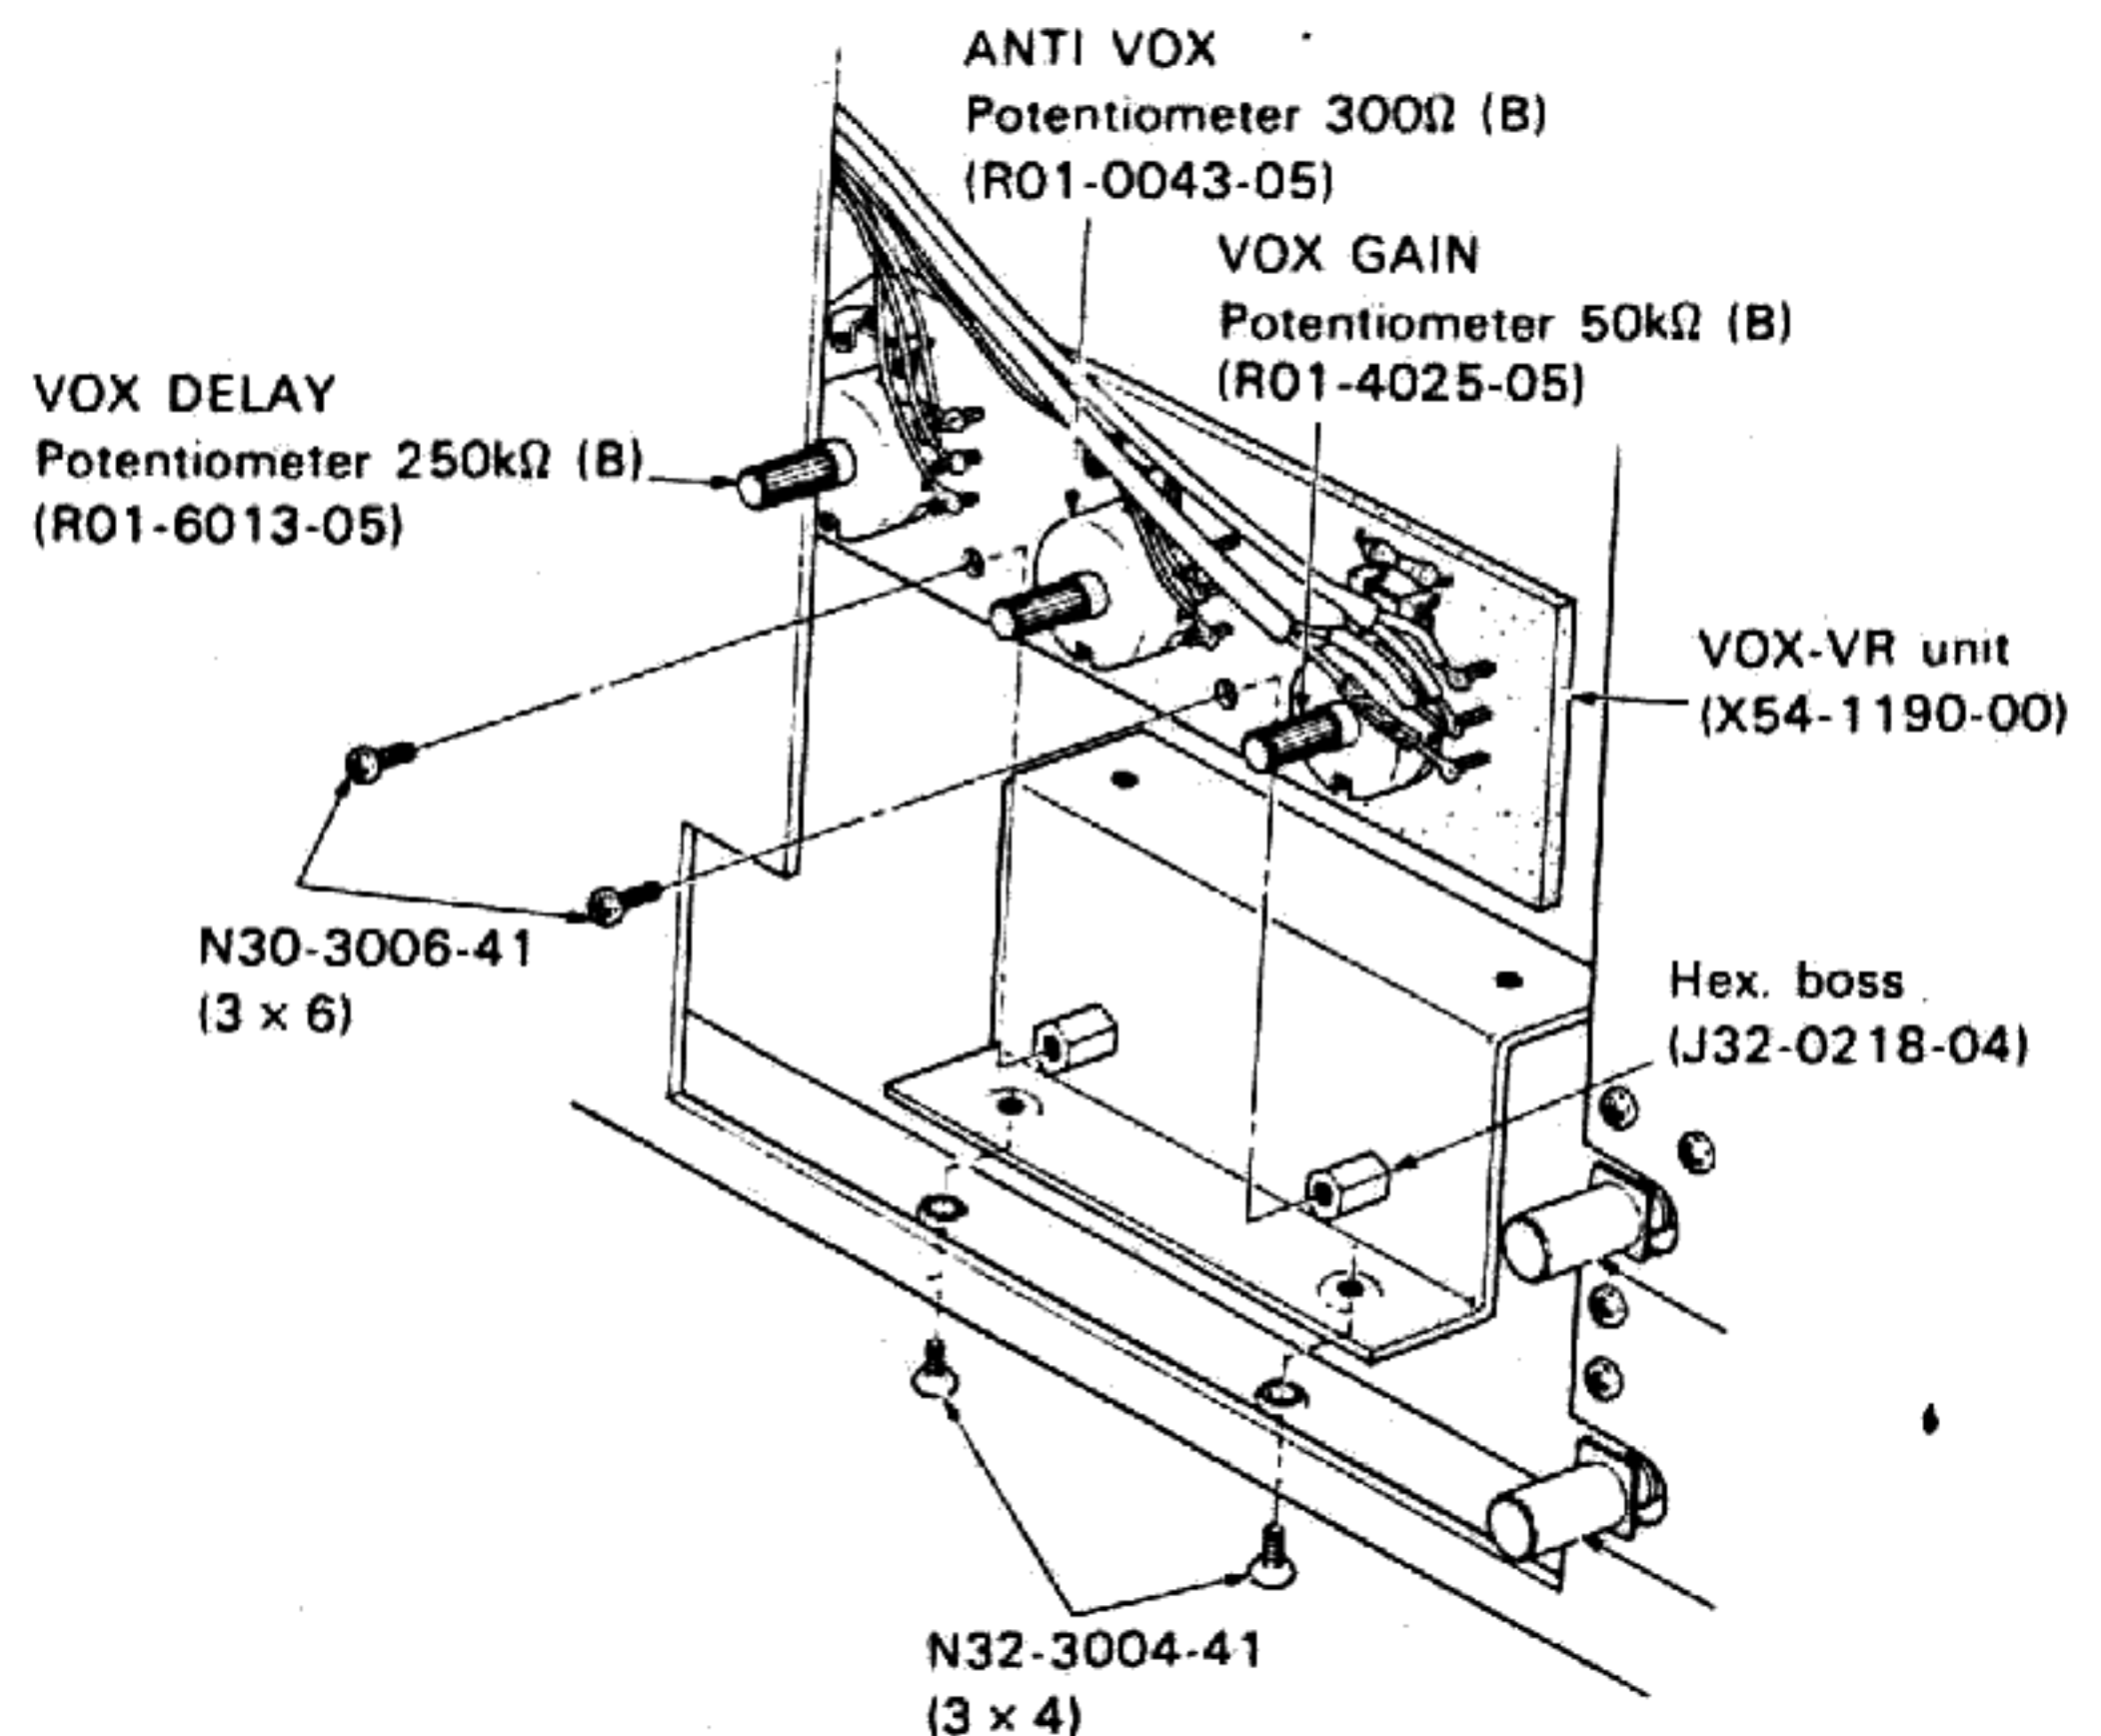

Fig. 17(a) Removing the VOX - VR unit
- 3) Remove from the subpanel the chassis, on which the VOX/VR unit is mounted, according to Fig. 17 and detach the unit.